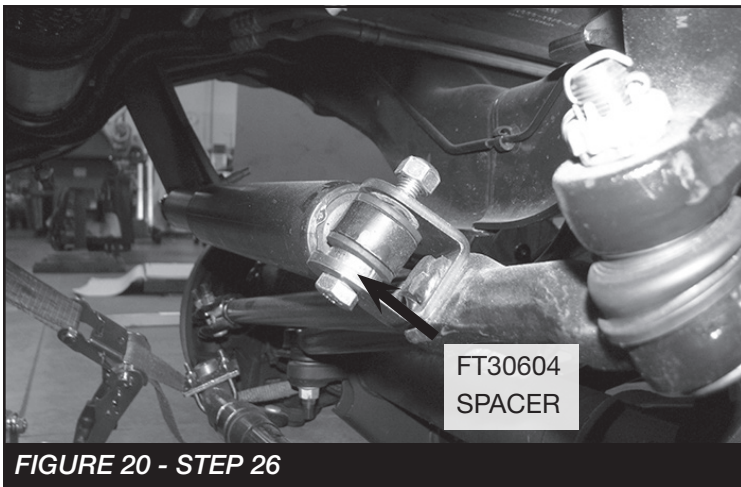

**FIGURE 18 - STEP 24**
24. **(PASSENGER SIDE)** Install FT30660 (Brake line bracket) to the factory brake line tab using the supplied 3/8" hardware (Use lower hole). Next, using the supplied rubber clamp and 1/4" hardware, attach the ABS line to the upper hole on the FT30660 bracket. Re attach to the frame using the factory hardware. Torque 3/8" & factory hardware to 52 ft-lbs. Torque 1/4" hardware to 14 ft-lbs. **SEE FIGURE 18**